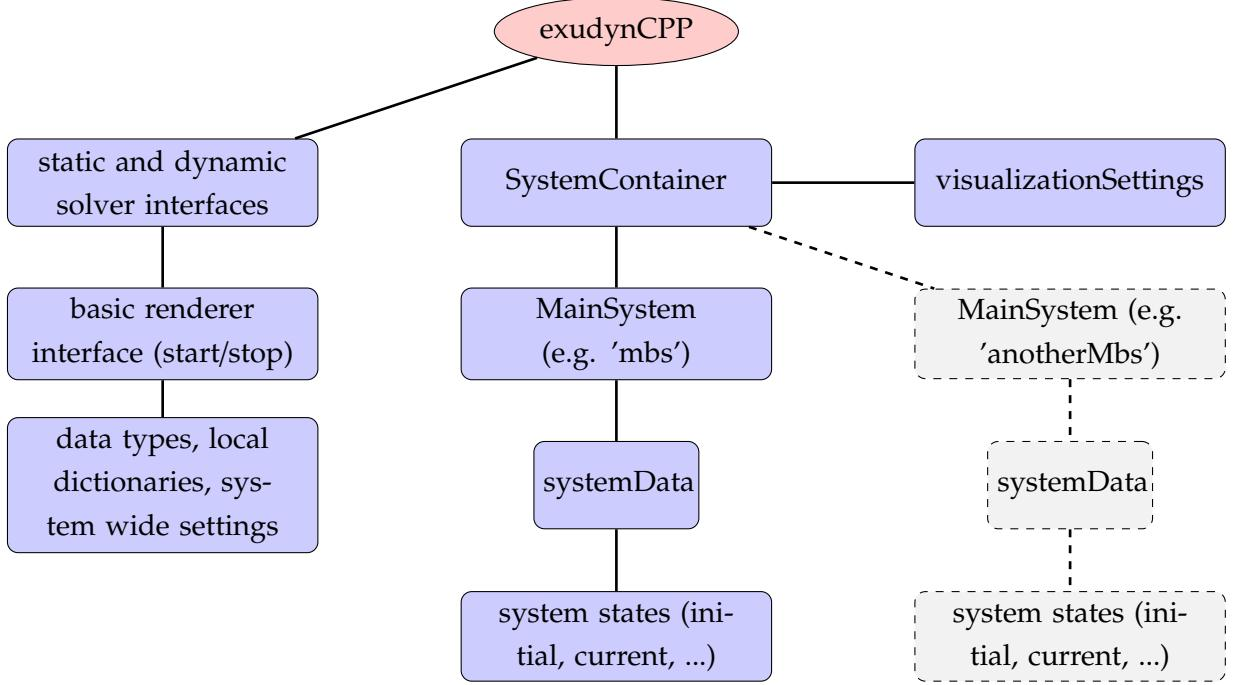
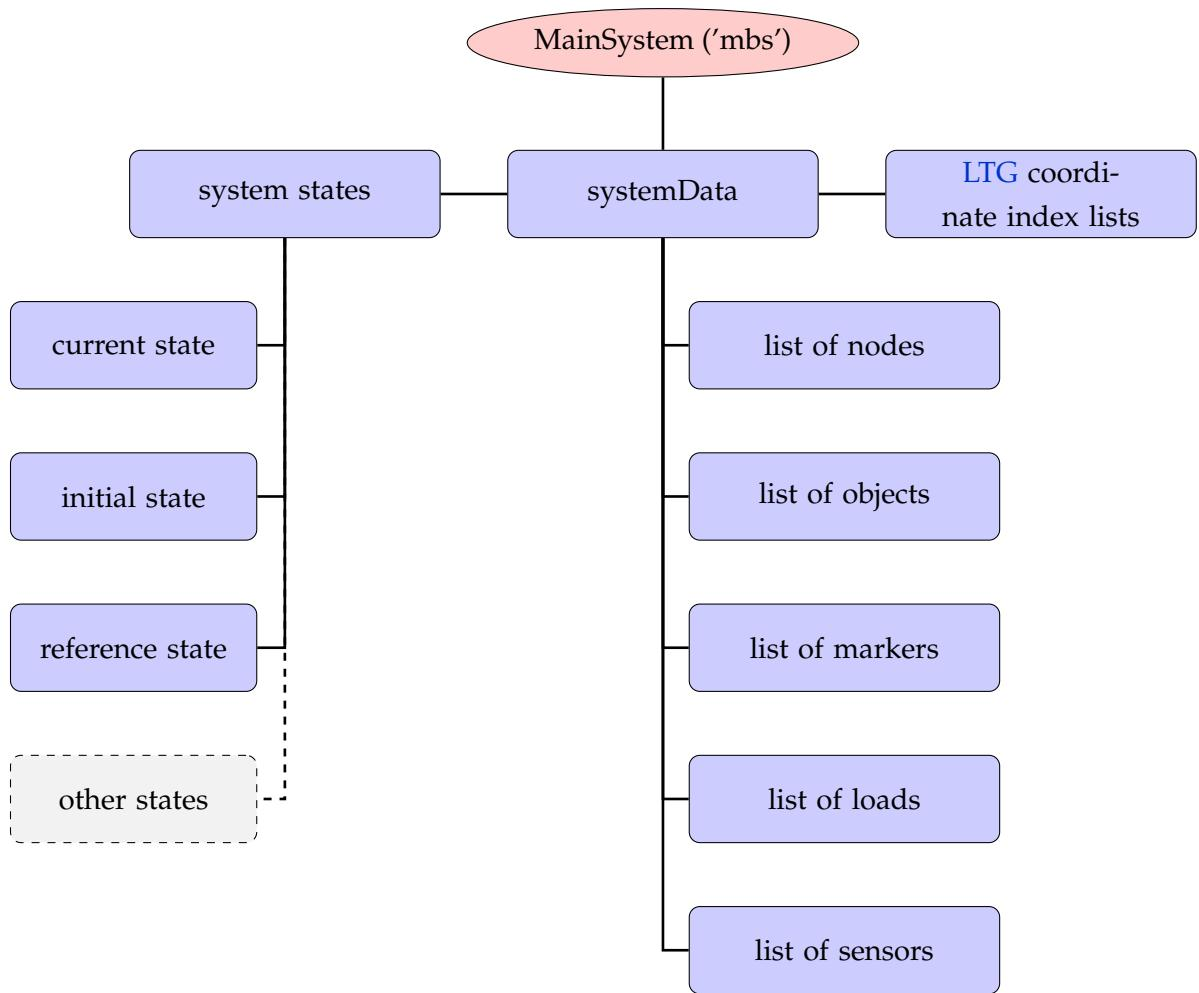

Figure 2.2: Overview of exudyn C++ module.
Figure 2.3: Overview of systemData, which connects items, states and stores the LTG. Note that access to items is provided via functions in MainSystem.
- **C++ parts**, see Fig. 2.2 and Fig. 2.3:
- `mbs.systemData`: contains the initial, current, visualization, ... states of the system and holds the items, see Fig. 2.3